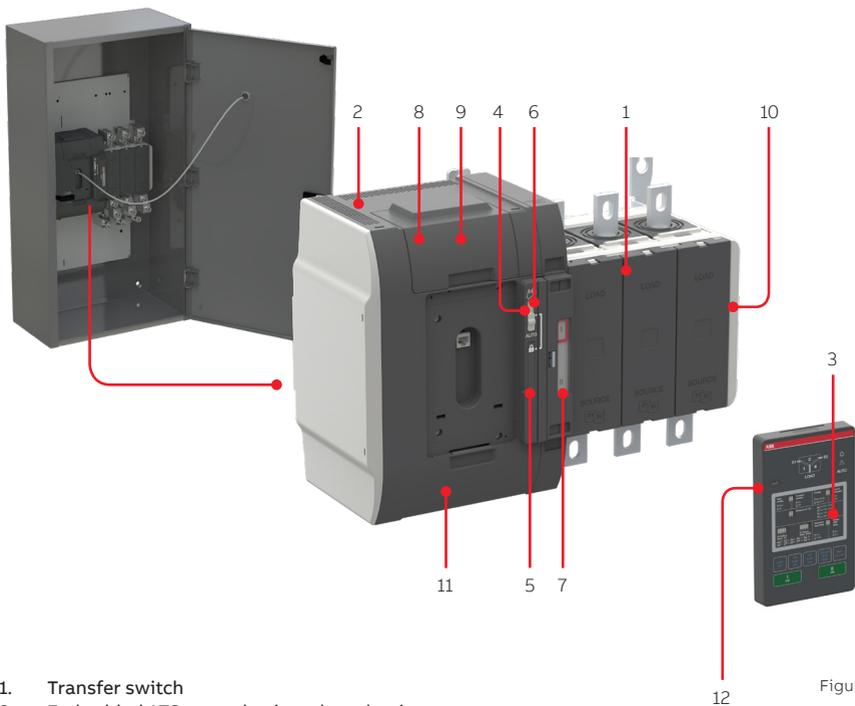
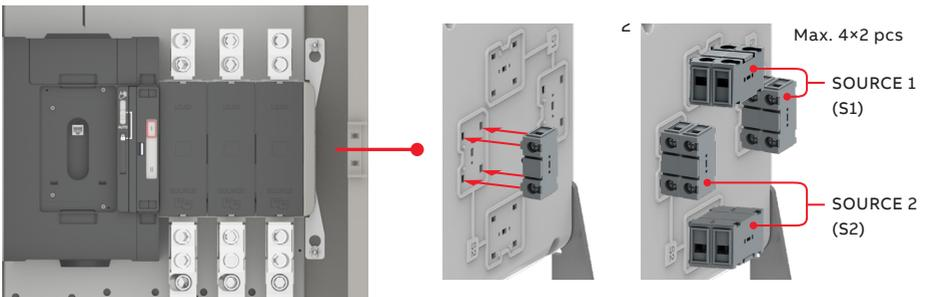

Figure 1
Figure 3
Zenith ZTX series ATS consists primarily of the TruONE™ power panel and an electrical enclosure. The TruONE Level 2 power panel integrates switch, mechanism, controller, power supply, HMI, and all connectivity accessories into one seamless unit. The construction of this transfer switch is outlined in Figure 1.
Auxiliary contacts will be shipped loose. Use Table 1 and Figure 3 to apply A (NO) and B (NC) contacts for correct operation. Each source has two separate mounting points capable of holding up to two aux contacts each for position indication, for a total of four per source. There is no restriction on using NO, NC, or both in any location.
2. Confirm rating label matches the installed application. For location see Figure 1, number 12.
5. Confirm that control wiring for engine start is properly terminated to the engine start contact (located in Figure 1, number 8).
7. Flip slide switch (Figure 1, number 4) to AUTO
\* Slide switch (Figure 1, number 4) must be in Auto, and controller mode (Figure 3 number 5) must be in Manual